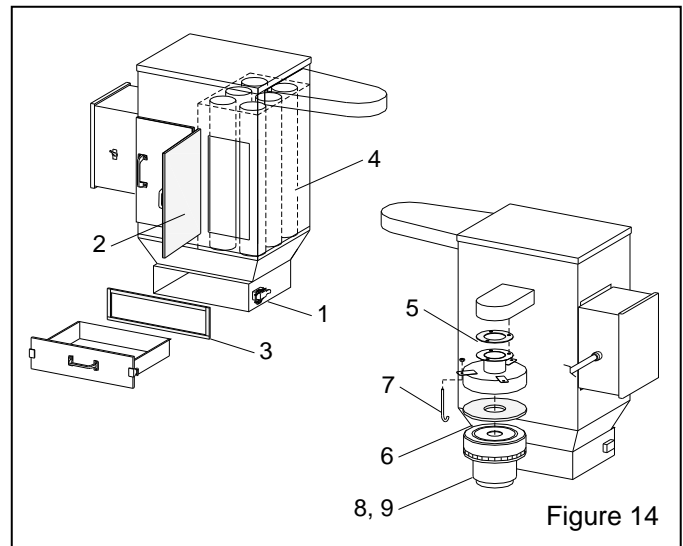

Figure 14
**8.4 Dust Collector, Figure 14**